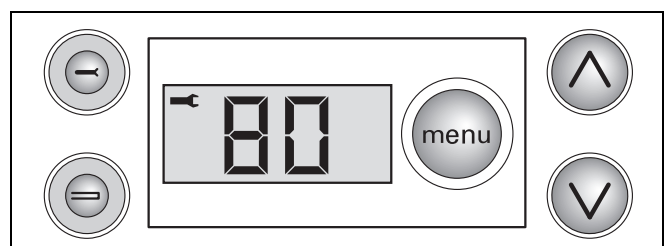

fig. 55 DBA with open-end spanner
- Set the boiler to partial load by pressing the service button "⊖" once. A symbol of an open-end spanner "🔧" appears in the upper left hand corner of the display (see fig. 55).